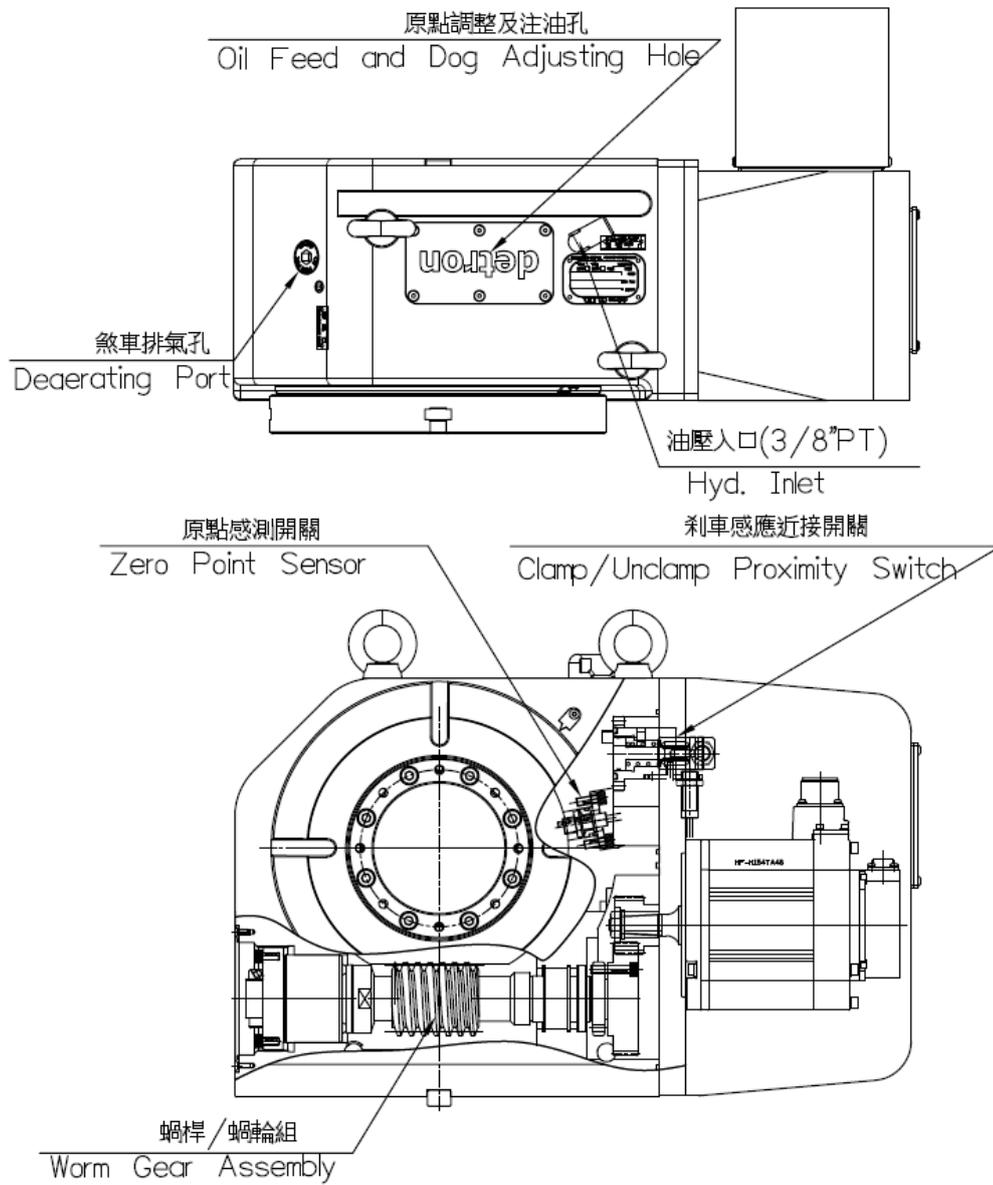

Fig 5-1
- (5).Add Lubrication. (see Fig 5-1 ∙ Page 11-1)
- (6).Make sure that the electrical connection between the Rotary Table and the machine controller is well connected according to the attached electrical circuit diagram.
(see Fig 5-1 ∙ Page 10-2)(Note: Hydraulic oil needs filtration)
- Inaccurate relative position between proximity switch and Zero Dog. Open the cover of observation window, loosen screws on Zero Dog; move Zero Dog to a proper position and test for correct action. Replace the cover of observation window. (*see Fig 5-1*)